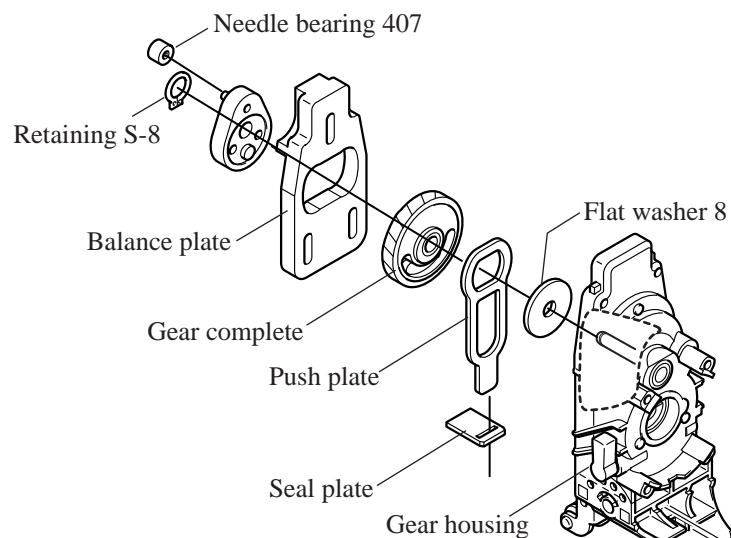

Fig.20
3. Disassemble retaining S-8. Then, the inner parts can be disassembled from gear housing as illustrated in Fig.20.